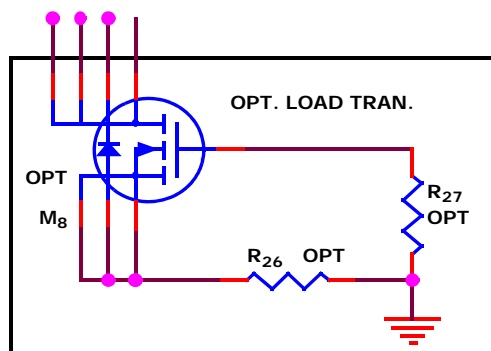

FIGURE 4. LOAD TRANSIENT CIRCUIT FOR PWM1
2. Install the load transient circuit as indicated on the schematic. Refer to Figure 4 for detail.